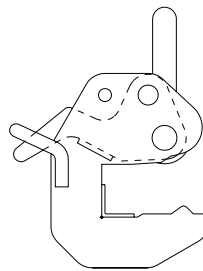

Fig. 18.2
1. Open the safety lever as far as possible (Fig. 18.2).